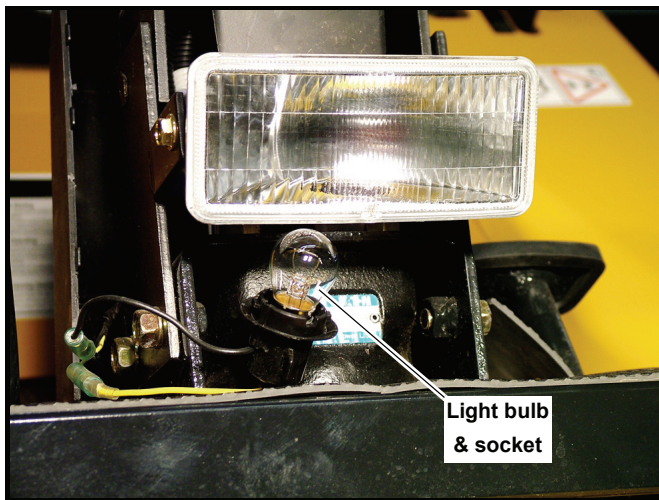

Figure 4-7
3. Remove the bulb. Figure 4-7
1. Pull the lower cover frontward and remove it. Figure 4-7